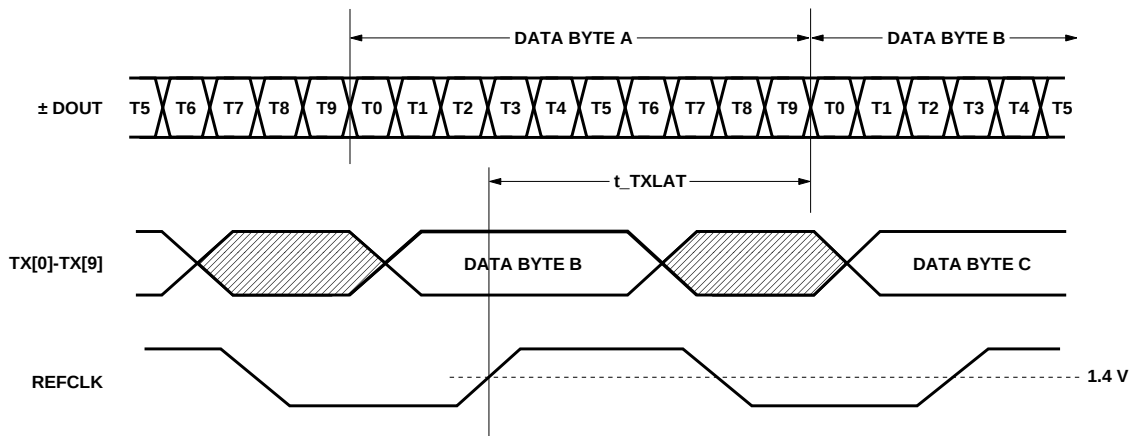

Figure 4. Transmitter Latency.
1. The transmitter latency, as shown in Figure 4, is defined as the time between the latching in of the parallel data word (as triggered by the rising edge of the transmit byte clock, REFCLK) and the transmission of the first serial bit of that parallel word (defined by the rising edge of the first bit transmitted).
2. The transmitter latency, as shown in Figure 4, is defined as the time between the latching in of the parallel data word (as triggered by the rising edge of the transmit byte clock, REFCLK) and the transmission of the first serial bit of that parallel word (defined by the rising edge of the first bit transmitted).